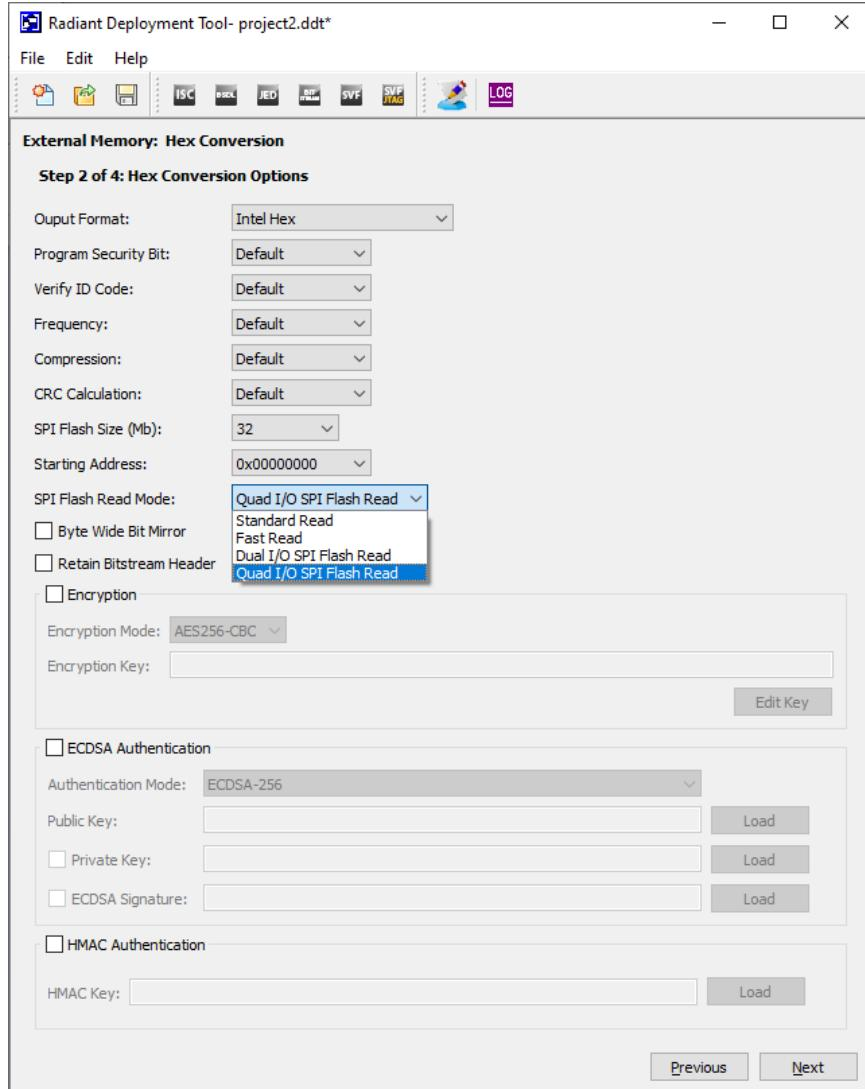

Figure 6.10. SPI Flash Settings
8. Set the SPI Flash Size (Mb) to match with the QSPI flash on the board. Set the SPI Flash Read Mode to the intended mode, for example **Quad I/O SPI Flash Read**. Leave other settings as default or set them according to your use case. Click **Next** to proceed. See Figure 6.10.